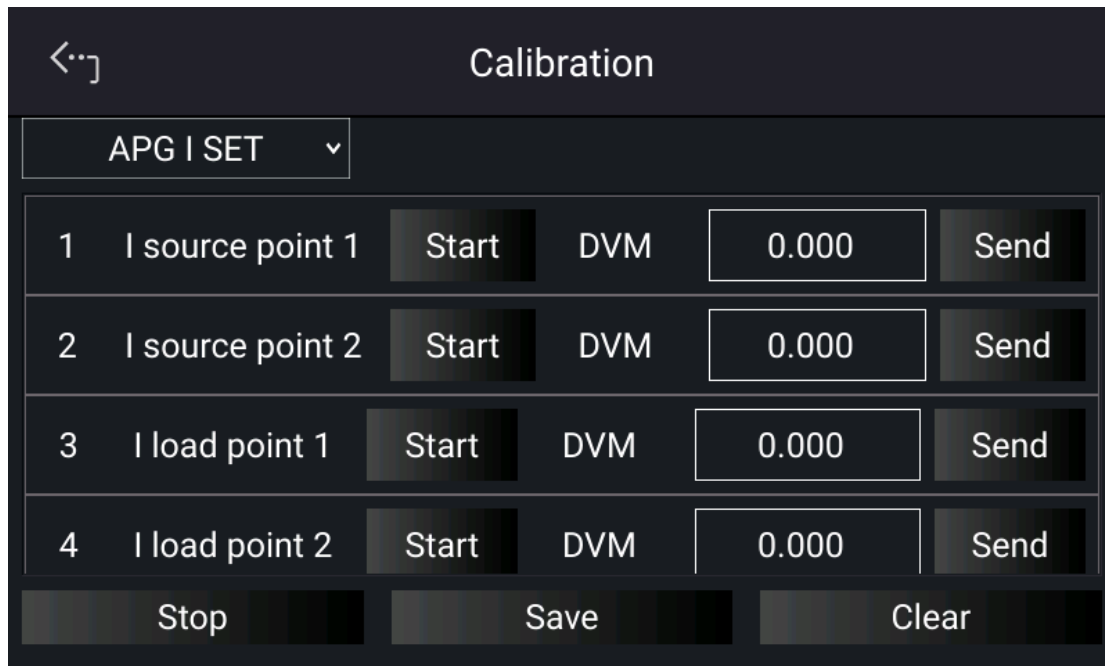

Figure 3-94
2. On the Calibration page, tap “Host V” to select APG I SET and list the APG current calibration items as shown in Figure 3-94.